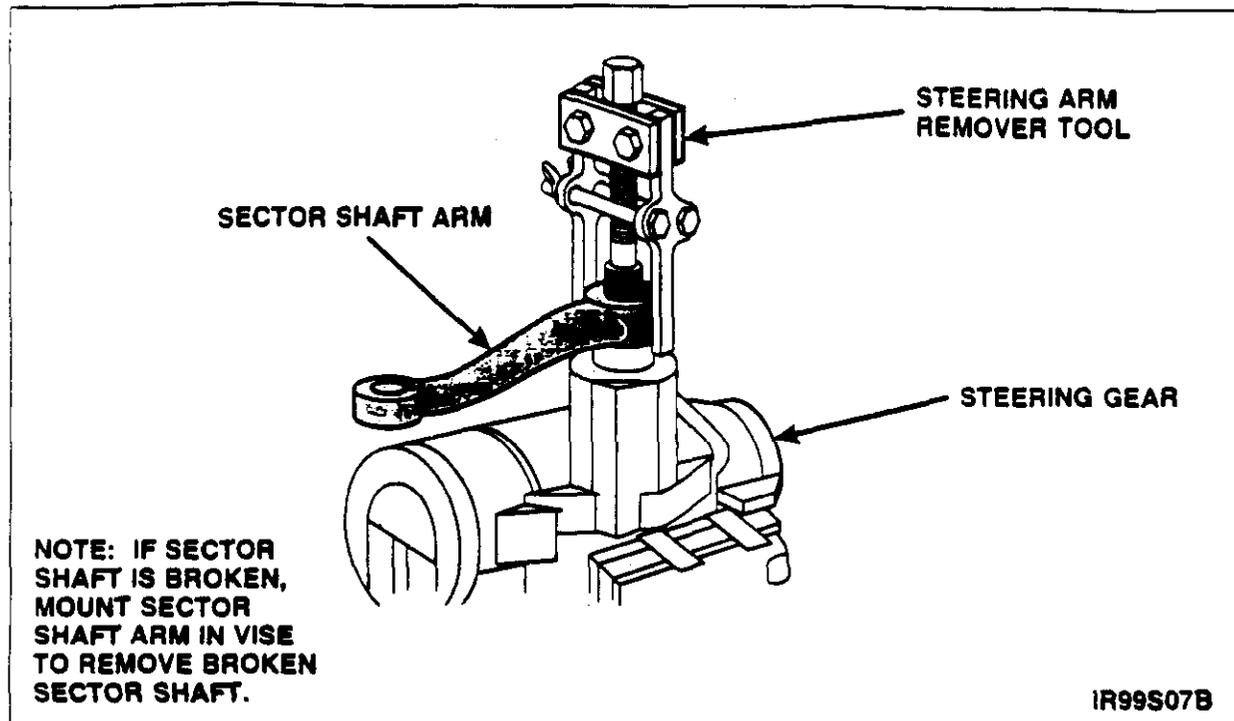

FIGURE 2
12. Install the Steering Arm Remover Tool (T64P-3590-F, Global Tool Number 211-003). See Figure 2.